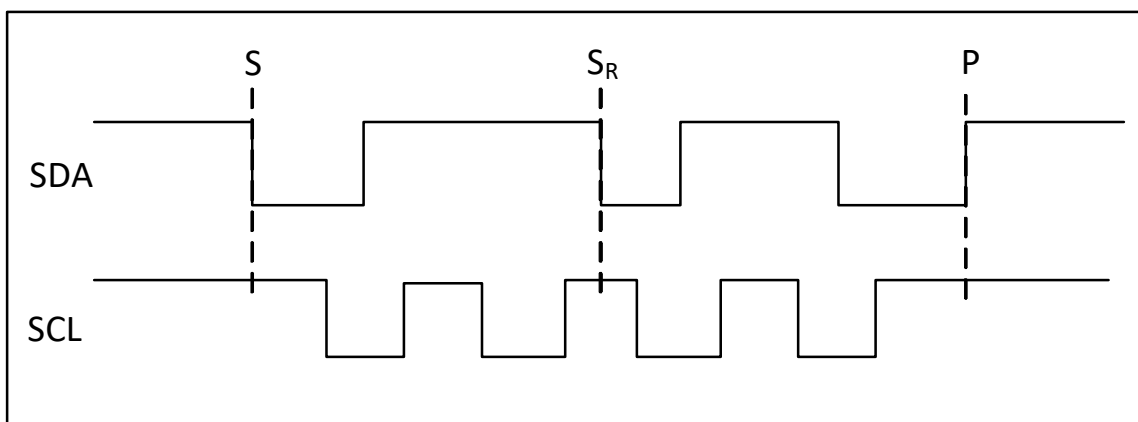

Figure 8. Start and Stop Conditions
The I2C/SMBus serial port is a two-wire serial bus where data line SDA is bidirectional and clock line SCL is unidirectional. Reads and writes to this interface by the master are byte-oriented, with the I2C/SMBus master controlling the serial data rates up to 240 kbps. The SDA and SCL lines must be pulled high through pull-up resistors of 5 kΩ or less. An Si8901 ADC read transaction begins with a START condition (“S” or Repeated START condition “SR”), which is defined as a high-to-low transition on SDA while SCL is high (Figure 8). The master terminates a transmission with a STOP condition (P), defined as a low-to-high transition on SDA while SCL is high. The data on SDA must remain stable during the high period of the SCL clock pulse because such changes in either line will be interpreted as a control command (e.g., S, P SR). SDA and SCL idle in the high state when the bus is not busy. Acknowledge bits (Figure 9) provide detection of successful data transfers, whereas unsuccessful transfers conclude with a not-acknowledge bit (NACK). Both the master and the Si8901 generate ACK and NACK bits. An ACK bit is generated when the receiving device pulls SDA low before the rising edge of the acknowledged related (ninth) SCL pulse and maintains it low during the high period of the clock pulse. A NACK bit is generated when the receiver allows SDA to be pulled high before the rising edge of the acknowledged related SCL pulse and maintains it high during the high period of the clock pulse. An unsuccessful data transfer occurs if a receiving device is busy or if a system fault has occurred. In the event of an unsuccessful data transfer, the bus master attempts communication at a later time. Figure 10A shows the I2C Slave Address Byte and CNFG\_0 byte for the Si8901. Figure 10B and Figure 10C show master/Si8901 ADC read transactions for Demand Mode and Burst Mode, respectively.